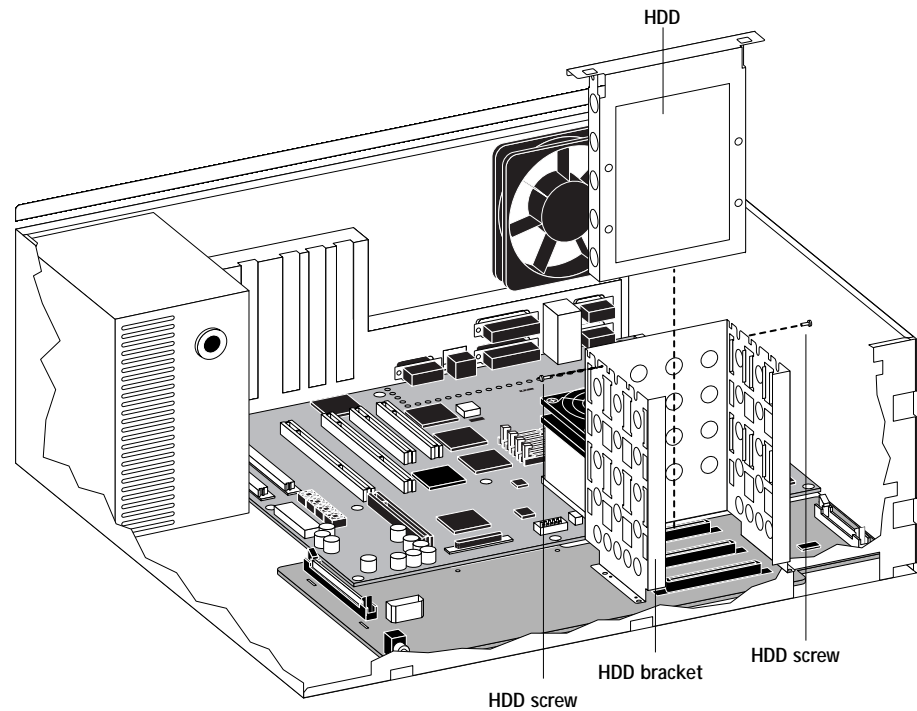

FIGURE 4-28 Removing and replacing the HDD
2. Loosen the two screws on the outside of the HDD bracket (see Figure 4-28).
3. Once the HDD is securely installed in the connector on the HDD backplane board, tighten the two screws on the outside of the HDD bracket (see Figure 4-28 on page 4-41).